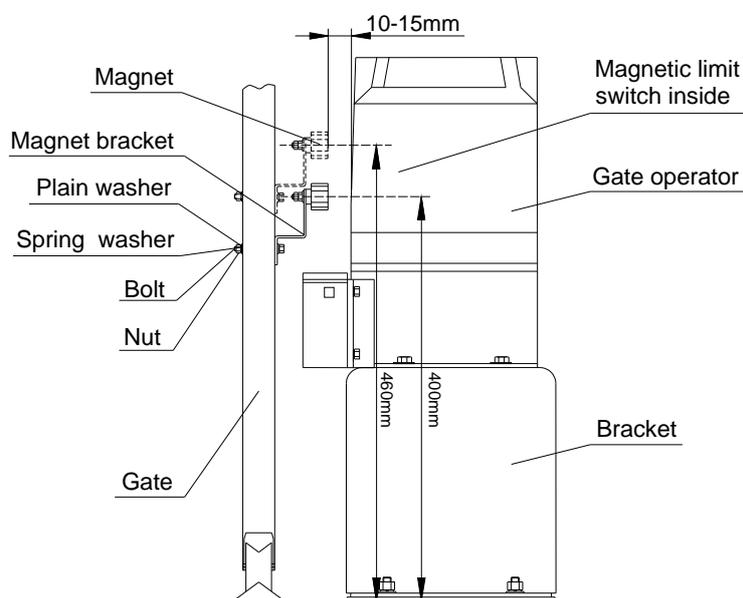

Fig.7
Magnets for limit switch (see Fig.7)
- Install the magnet as shown in Fig.7 below. The magnet and limit switch are used to control the position of the gate.